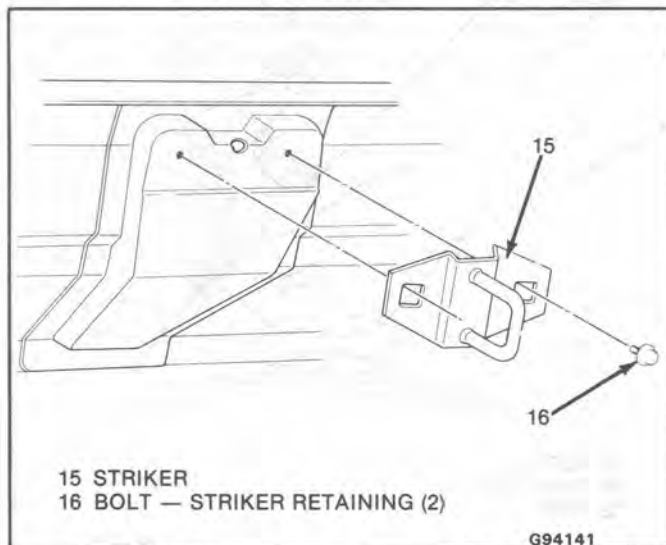

Fig. 7-Rear Compartment Lid Striker
**↔ Remove or Disconnect (Figure 7)**
1. Bolts (16)
2. Striker (15)
**→← Install or Connect (Figure 7)**
1. Striker (15)
2. Bolts (16) – hand tighten bolts. Carefully close lid to align striker and then tighten bolts.